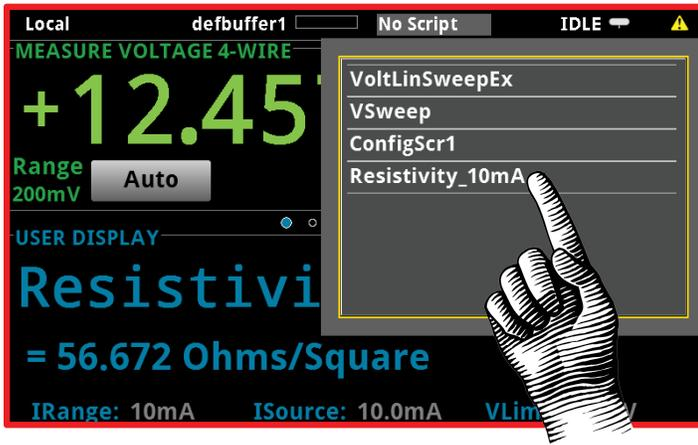

Figure 7. Pressing the desired script will automatically execute that script.
4. Once the script is stored into internal memory, the user can execute the script from the Home Page as shown in **Figure 7**. At the top of the Home Page, press the “No Script” button to view the available scripts. Press the desired script and the test will automatically execute.